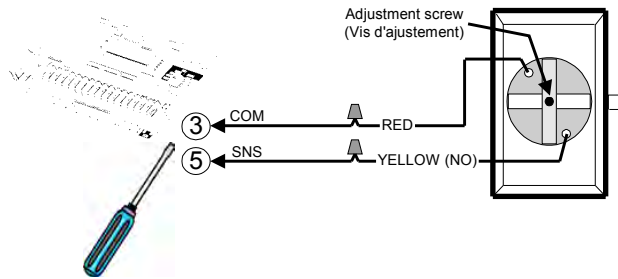
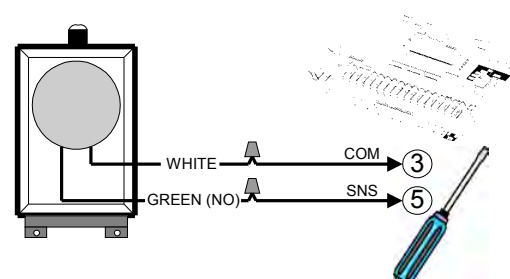

Figure 29 - AIRSWITCH 001 / 007
Figure 30 - AIRSWITCH 009
3. Use a coil cord or take-up reel to connect the air switch to the operator terminals. Install electric wires according to Figure 29 or Figure 30.